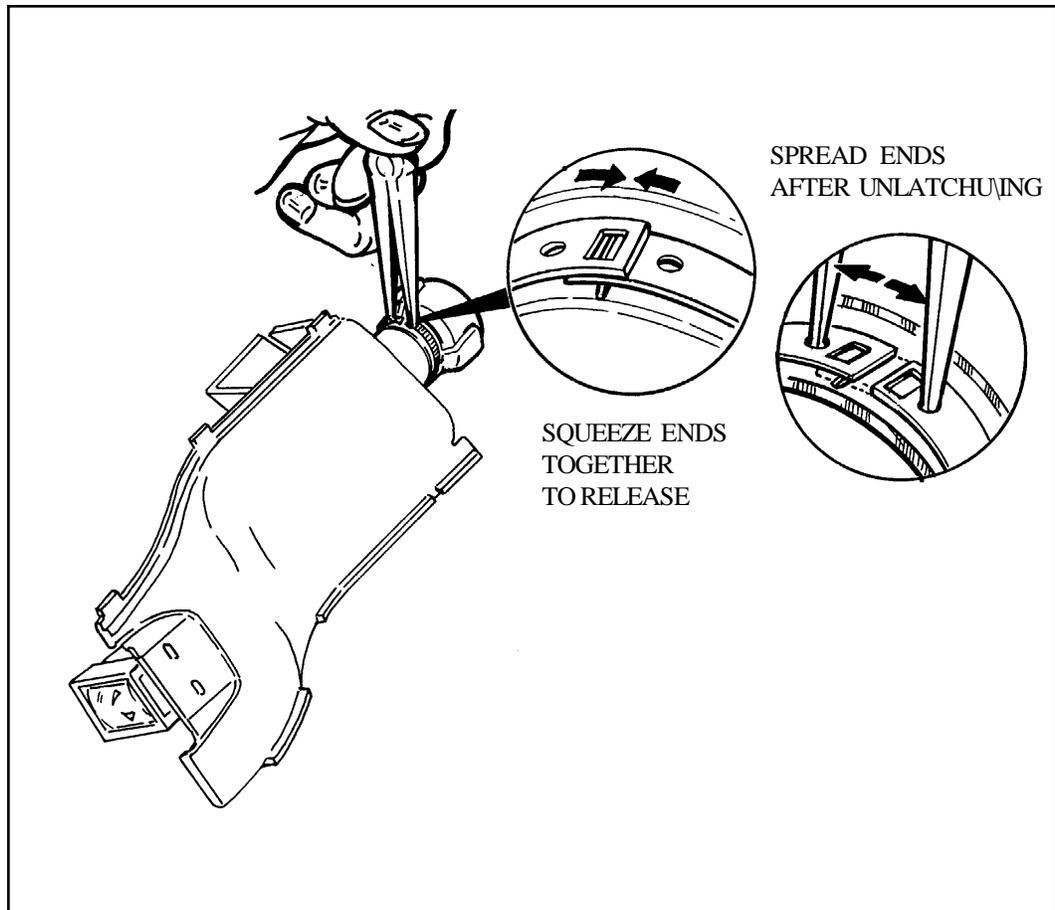

Figure 3-8. Removing Retainer and Eyecup from Viewfinder
- b. Remove the Viewfinder Eyecup by using tweezers to release the Eyecup Retainer band, then pulling the Eyecup off the Viewfinder (Figure 3-8).